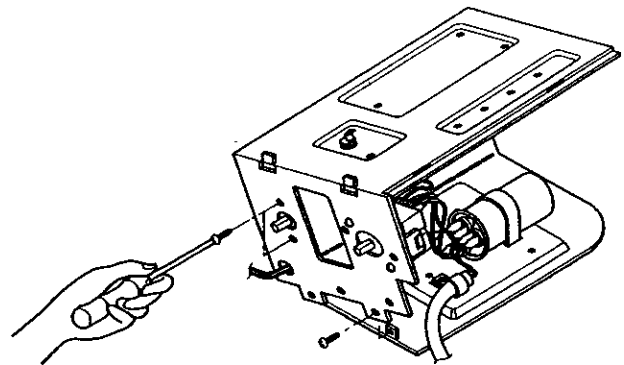

Figure 69
5. Remove the thermostat. (See Figure 69)